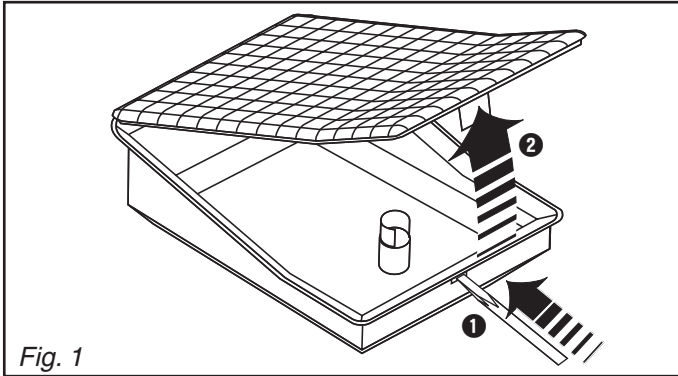

Fig. 1
3.1 Opening the housing (Fig.1)
- 1 - Using screwdriver ①, press locking tab to release.
- 2 - Lift off cover ②.